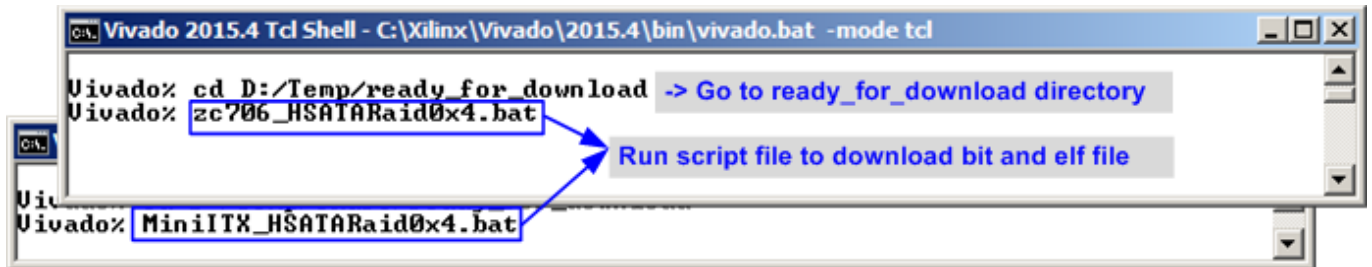

Figure 2-8 Command script for download demo file to ZC706/Mini-ITX by Vivado tool
- a) For ZC706/Zynq Mini-ITX board, open Vivado TCL shell, change current directory to ready_for_download. Next, run xxx_ HSATARaid0x4.bat as shown in Figure 2-8. For example, type zc706_HSATARaid0x4.bat, zcu102_HSATARaid0x4.bat, MiniITX_7z045(or 7z100)_HSATARaid0x4.bat.